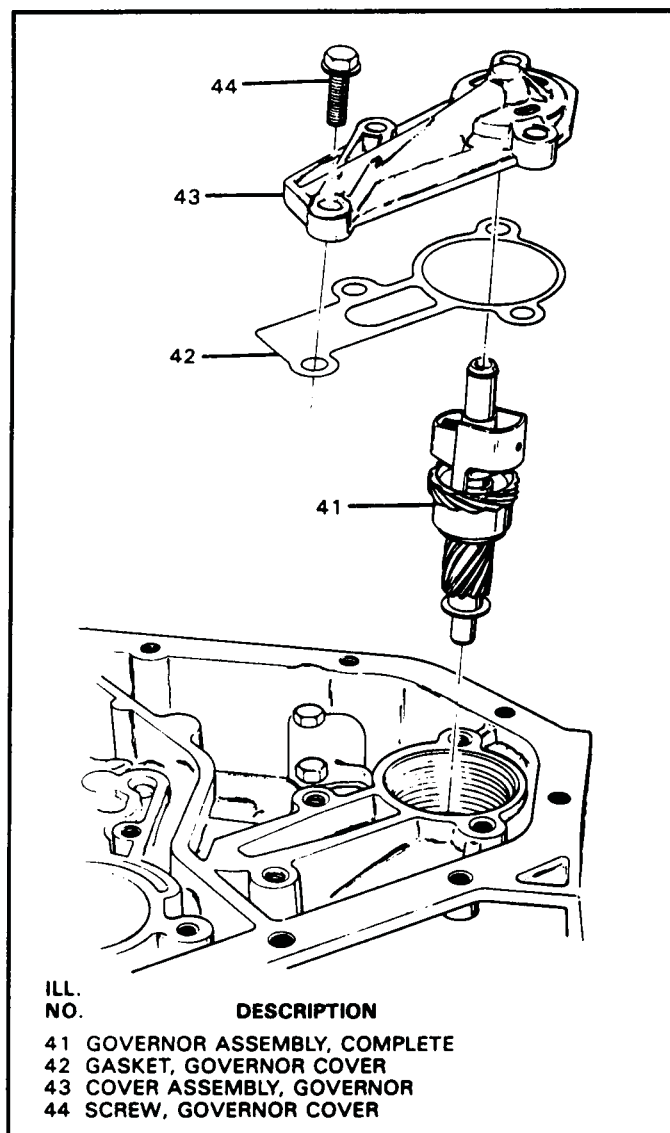

Figure 139
6. Install the governor assembly into the case bore as shown in Figure 139.
7. Install governor gasket onto case, as shown in Figure 139.
8. Install the governor cover making sure that the governor pilots into the cover (See Figure 139).
9. Install the governor cover retaining bolts and torque to 18 ft.lbs. (See Figure 139).